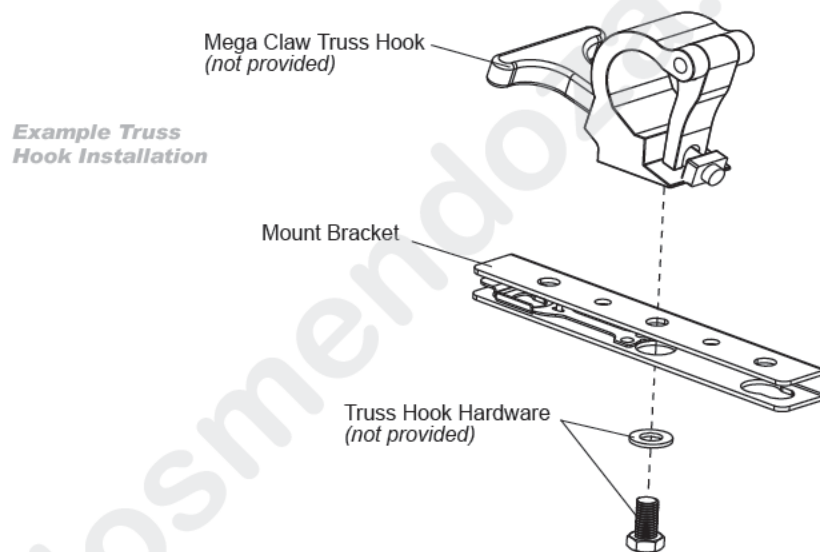

Figure 2-7: Truss Hook Installation
- Step 1. Install truss hooks (also refer to “Truss Hook Hardware \(by others\)” on page 23) for additional information) on two provided truss hook brackets as required as shown in Figure 2-7.
When installing hanging hooks on mounting brackets, Vari-Lite strongly recommends the use of a Belleville washer (*by others*, Figure 2-8 shows examples) when installing a truss hook or claw as shown in Figure 2-7.